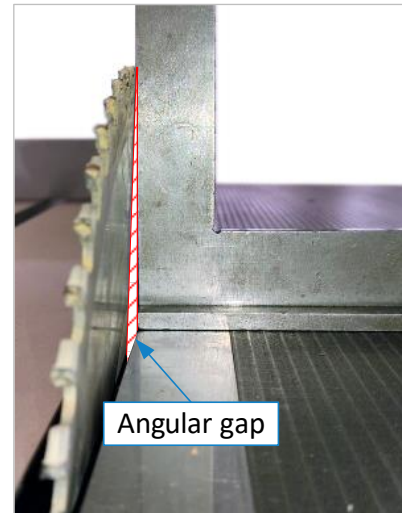

Figure 49: Angular gap
2. Turn off the main switch and lock it. Check that the saw blade is square with a 90° angle stop (Figure 49). Use the table top as reference surface.